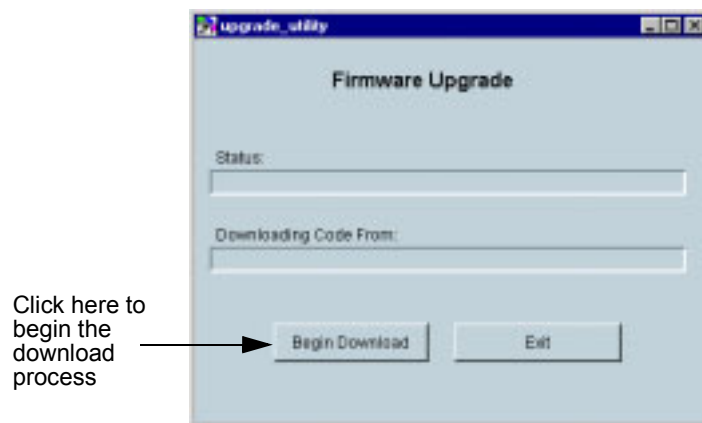

Figure 6-1. Firmware Upgrade Utility
1. Locate the executable file *upgrade_utility.exe* in the directory Hp422xa and start the utility to display the window shown below in Figure 6-1.